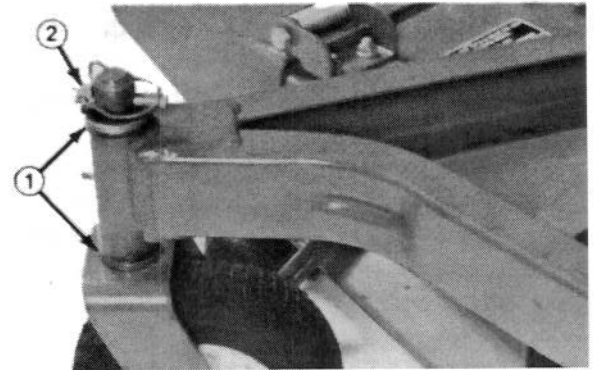

Figure 19
- A. Cutting units usually operated at 25 mm to 50 mm height-of-cut should have the low side of the cutting unit raised. Remove the lynch pin securing castor wheel on low end (Fig. 19) and remove the castor assembly.
- B. Transfer one thrust washer from top side of the castor shaft to lower side, install the castor assembly and compare blade height of all blades; refer to items 3 through 7. Continue adding thrust washers if height still does not meet requirements.
- C. If the cutting unit is operated at 5–10 cm height-of-cut, lower the high side of the cutting unit. Remove lynch pin of the castor at high end of unit and remove the castor assembly (Fig. 19).
- D. Transfer one thrust washer from lower side of the castor shaft to top side, install assembly and compare blade height of all blades; refer to items 3 through 7. Repeat procedure if height still does not meet requirements.